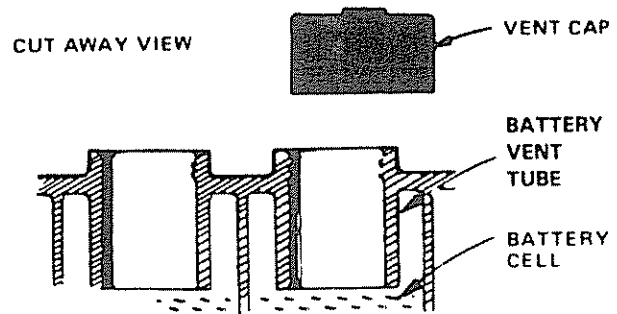

FIGURE 2
- Fill each cell with battery acid. Add the acid until it reaches the bottom of the vent tubes (Fig. 2). Do not add the acid beyond this level or the additional acid can come out when the battery is charged.